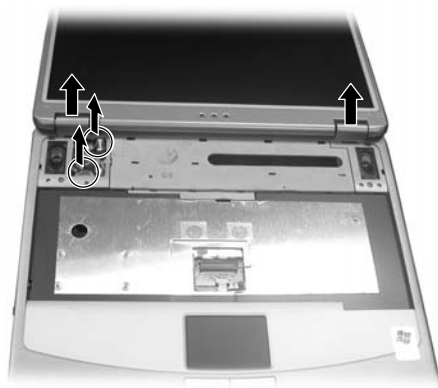

Figure 2-29 Remove two hinge covers and disconnect two cables
5. Open the top cover to level plane. Then remove the two hinge covers. And disconnect the two LCD cables from the system board. (Figure 2-29)